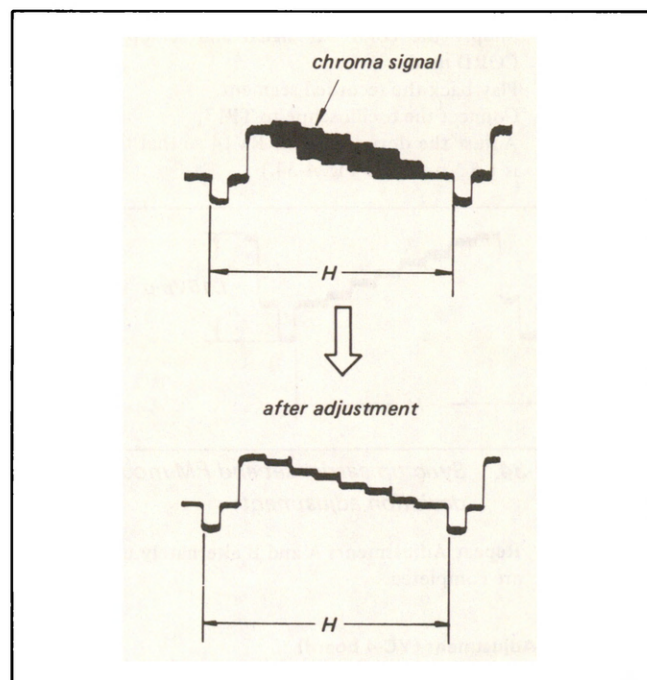

Fig. 4-32. Comb filter adjustment
- (1) Supply the color bar signal and set up the RECORD mode.
- (2) Connect the oscilloscope to TP4.
- (3) Turn L12 and RV4 alternately to make the chroma signal minimum. (See Fig. 4-32.)